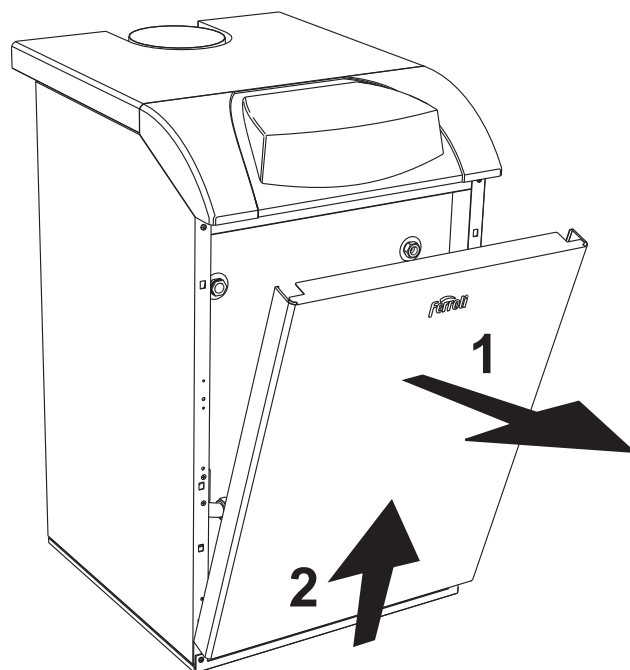

fig. 7 - Front panel opening
To open the front panel of the boiler, see the sequence in fig. 7.
- Remove the front panel of the boiler (fig. 7).